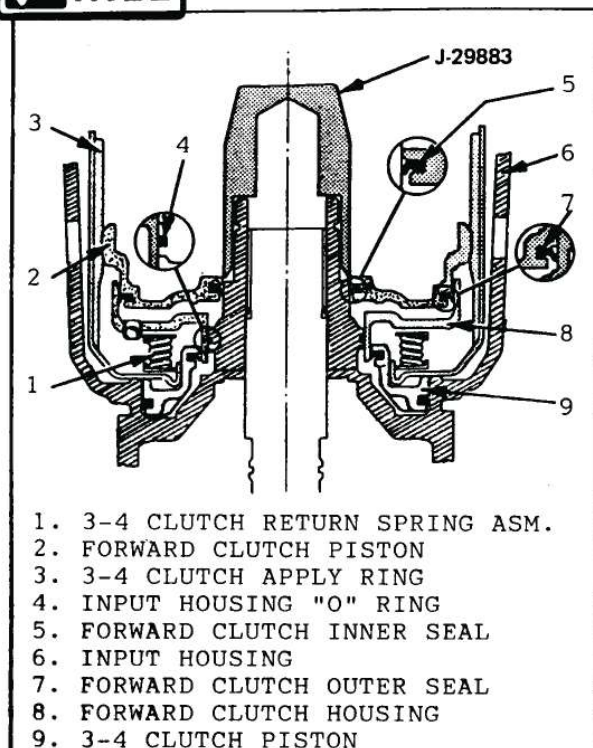

Figure 77
8. Install the inner and outer 3-4 clutch lip seals on the 3-4 clutch piston. Seal lips must face the direction shown in Figure 77.
9. Lubricate the seals with petroleum, and install the 3-4 clutch piston into the input housing as shown in Figure 77.
2. Install new "O" ring into input housing groove as shown in Figure 77.
5. Install the 3-4 clutch spring assembly on top of the 3-4 clutch apply ring (See Figure 77).
6. Install the forward clutch housing into the input housing as shown in Figure 77.
8. Install the inner and outer lip seals on the forward clutch piston as shown in Figure 77.
9. Install forward clutch piston into forward clutch housing using tool J-29883 as shown in Figure 77.